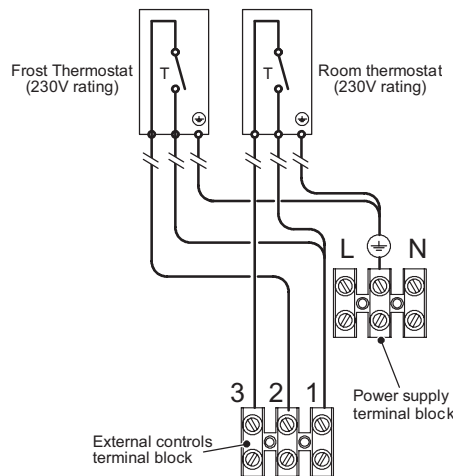
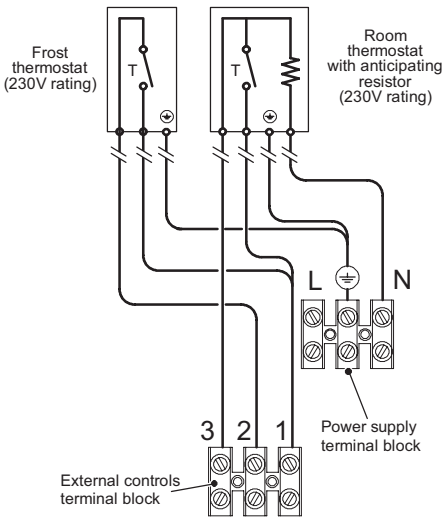

Fig. 6.21
Fig. 6.22
- Connect the frost thermostat between terminals 1 and 2 as shown in Fig. 6.21 or Fig. 6.22. **Do not connect live wires to terminals to which the room thermostat must be connected.**